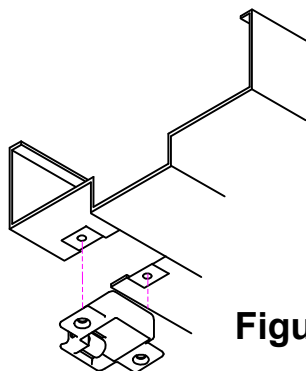

Figure 8-3
2. Install the top strike on the mounting plates (figure 8-3) and secure with supplied screws (figure 8-4).